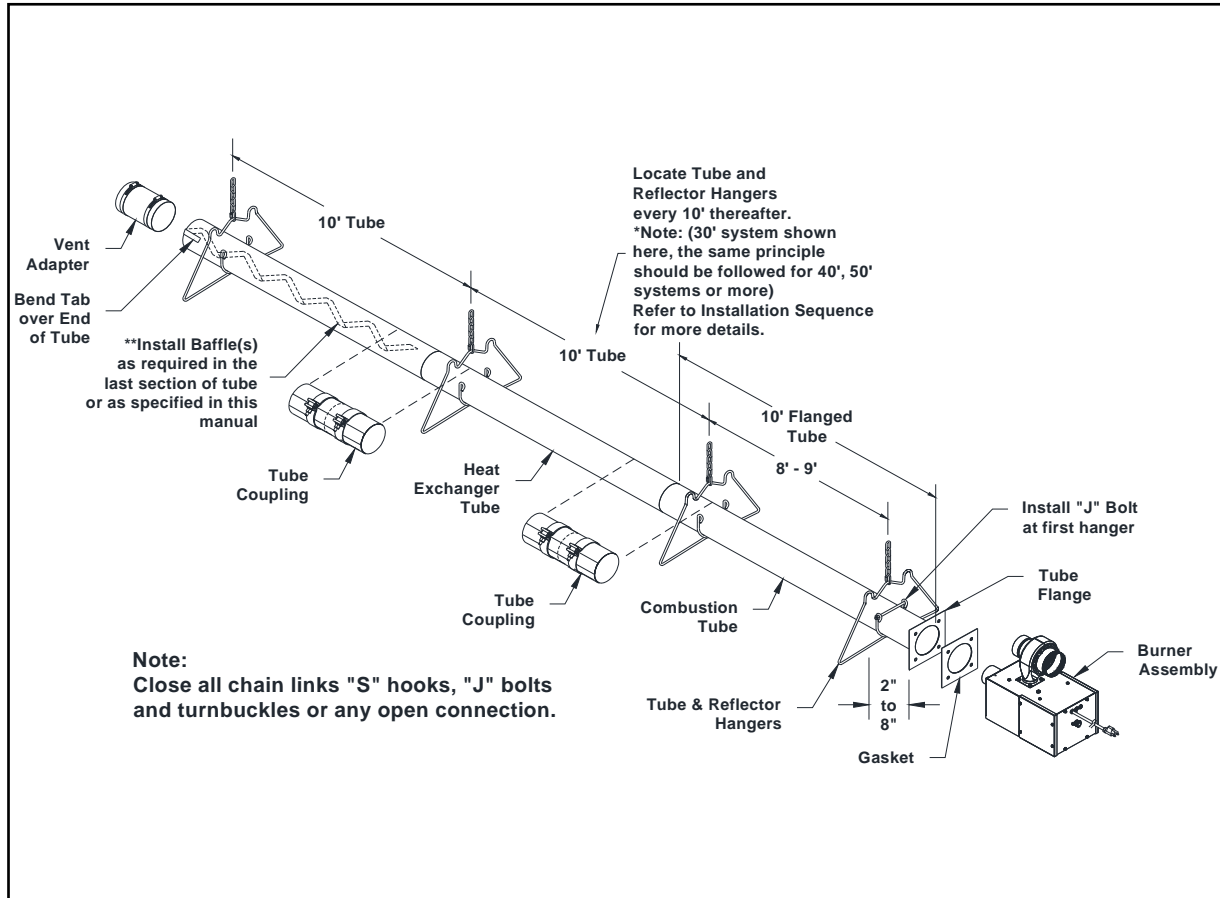

Figure 11: Overall view of Tubes and Reflector Hangers
- A general overall view of the tubes and reflector hangers are shown in **Figure 11** below